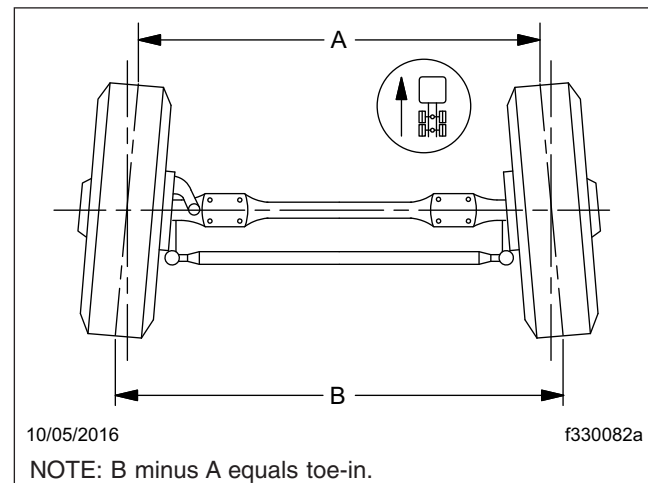

Fig. 3, Wheel Toe-In (overhead view)
6. Place a trammel bar at the rear of the front tires; locate the trammel pointers at spindle height, and adjust the pointers to line up with the scribe lines on the center ribs of the front tires. See **Fig. 3**. Lock in place. Check that the scale is set on zero.